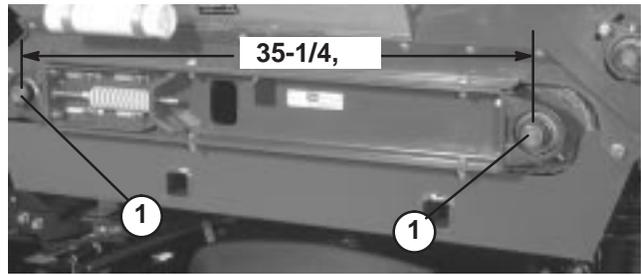

Figure 22
3. Check to insure that the center distance between conveyor belt roller shafts (Fig. 22), on each side of machine, are equal distance (approximately $35\text{-}1/4''$).